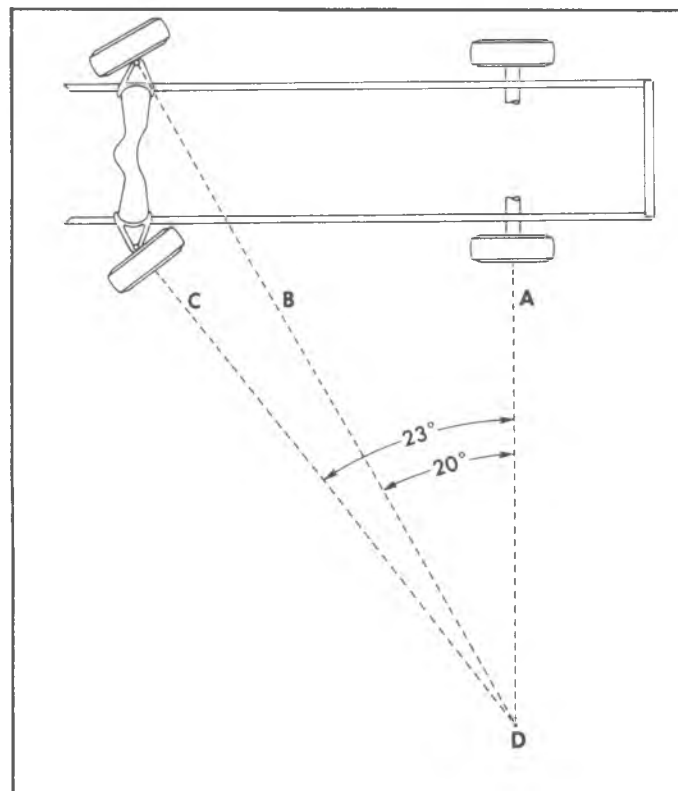

Fig. 15—Toe-out on Turns
### TOE-OUT ON TURNS (Fig. 15)
Note in fig. 15 that the right front wheel centerline (B) and the left front wheel centerline (C) intersect the centerline of the rear axle (A) at the same point (D). The 20° and 23° angles are not necessarily representative of any vehicle and are used here for theory only.